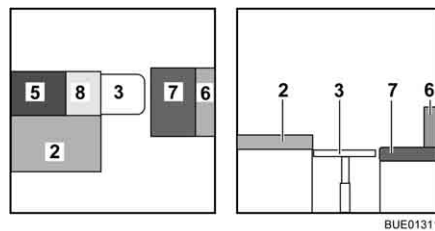

Fig. 137 During conversion
- Place the additional cushion (Fig. 137,8) on the table.
- Place the seat cushion (Fig. 137,7) in the centre.
- Place the back cushion (Fig. 137,6) between the seat cushion and the wall.